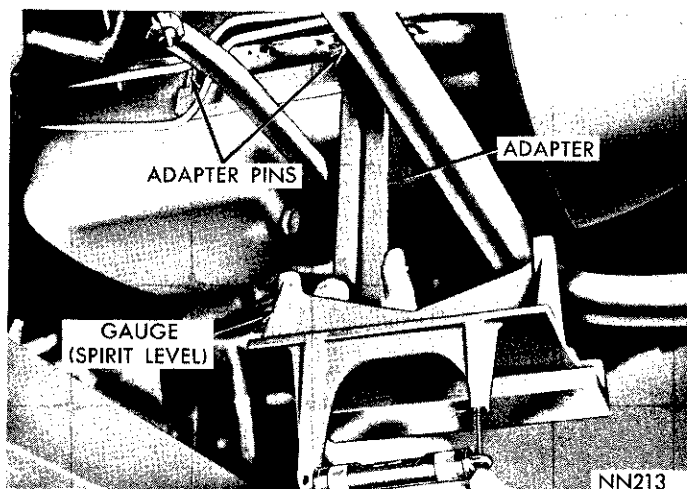

Fig. 6—Adjusting Gauge on Engine (Front Joint Angle Reference)
(2) Position gauge on left side of engine so that adapter pins contact flat surface of engine oil pan flange adjacent to vertical wall of the oil pan (Fig. 6). The gauge must be held vertical as shown with arrow on gauge SP-5060 pointing toward the front of car.